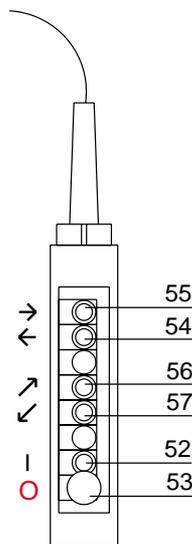

Fig. 5 - Pendant control station
- 1 pendant control station (Fig. 5) at the end of the jib for controlling the traversing of the trolley and the lifting/lowering of the jib.